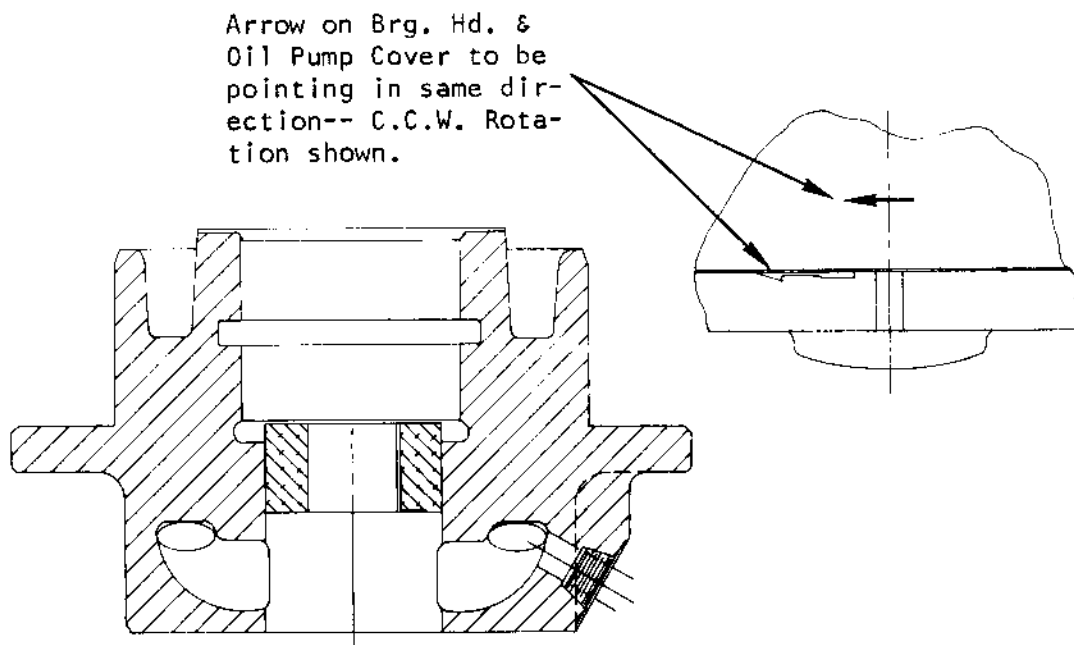

FIGURE 9
7. Arrow on bearing head and oil pump cover must be pointing in the same direction (Figure 9).